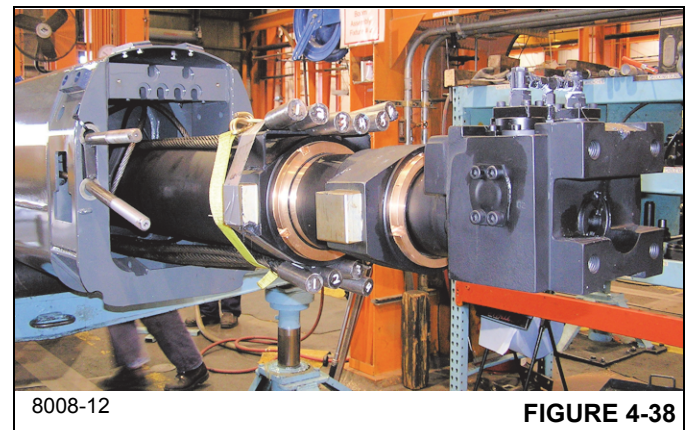

FIGURE 4-38
45. Fully insert tele 4 (5) into tele 3 (4), ensuring the telescope cylinder (6) passes through the rear of tele 3 without damaging tele 3 and telescope cylinder (see Figure 4-38).